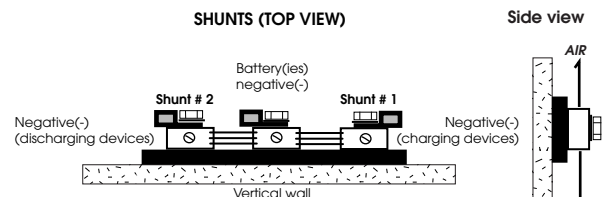

Figure 4: Dual Shunts Physical installation
- 1- The Dual-Shunt MUST be mounted, close to batteries but not in battery box, horizontally on a vertical wall to ensure the proper ventilation and cooling of the small shunt plates (see figure 4).
- 2- Your Dual-Shunt has a center mount with Bolt. This center post will act as a Common Negative Point (-) (see figure 4).